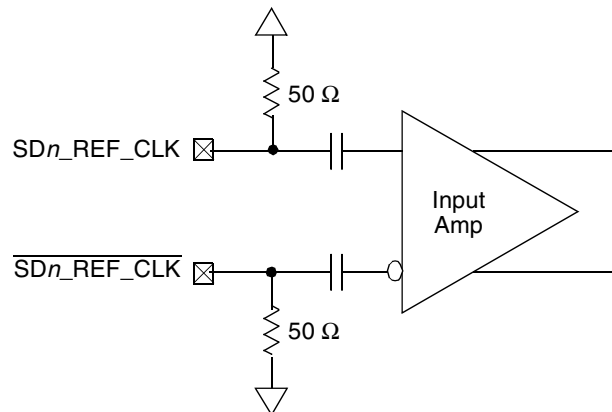

Figure 52. Receiver of SerDes Reference Clocks
Figure 52 shows a receiver reference diagram of the SerDes reference clocks.
- The $\overline{\text{SDn_REF_CLK}}$ and SDn_REF_CLK are internally AC-coupled differential inputs as shown in Figure 52. Each differential clock input ($\overline{\text{SDn_REF_CLK}}$ or SDn_REF_CLK) has a 50 Ω termination to SGND_SRDS_n (xcovvss) followed by on-chip AC-coupling.